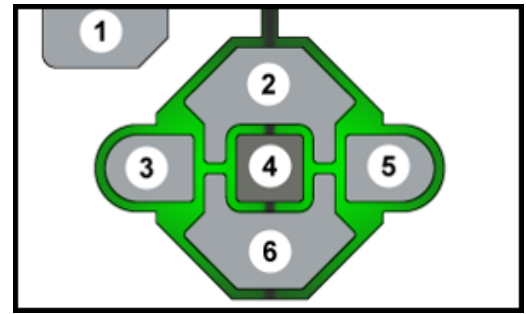

Fig. 6: EV3 buttons (ev3dev 2018)
Fig. 6 shows the navigation buttons present on the EV3.
4. To select Single User mode press the left button (3 in Fig. 6).
To select Multi User mode press the right button (5 in Fig. 6).